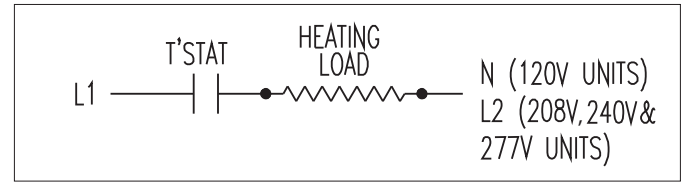

Figure 16 – Wiring diagram for XPA convection heater
6. All heaters come factory prewired ready for direct connection to power supply leads (see Figure 16, page 7).